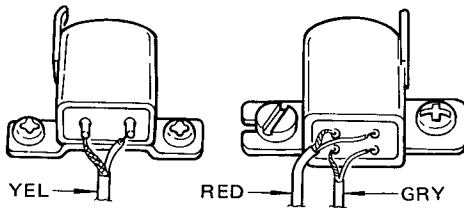

Fig. 13
1. Disconnect the lead wires from the record/playback head. (The wires must be unsoldered; see Fig. 13.)